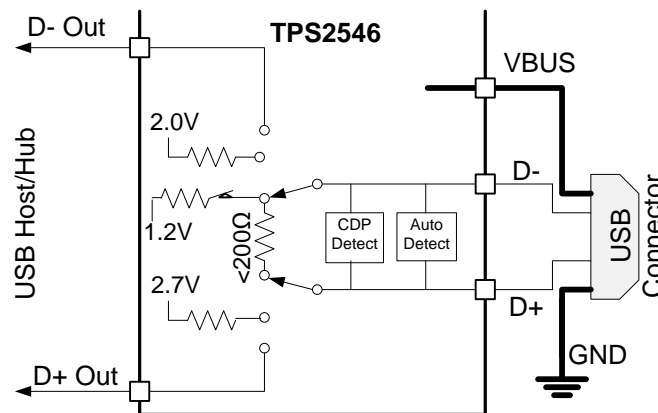

Figure 28. DCP 1.2V Charging Scheme
1.2V charging scheme is used by some handheld devices to enable fast charging at 2.0A. TPS2544 supports this scheme in the DCP-Auto mode before the device enters BC1.2 shorted mode. To simulate this charging scheme D+/D- lines are shorted and pulled-up to 1.2V for fixed duration then device moves to DCP shorted mode as defined in BC1.2 spec. This is shown in Figure 28